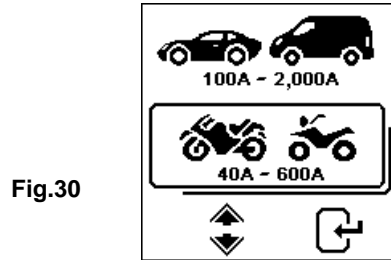

Fig.30
17. While on the main menu as shown (Fig.30) below, select  for Motorcycle Battery test.